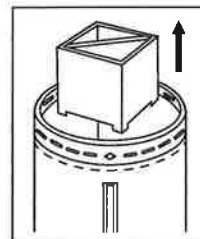

Fig.3
**A) Remove all packing materials from heater:** (Fig.3)